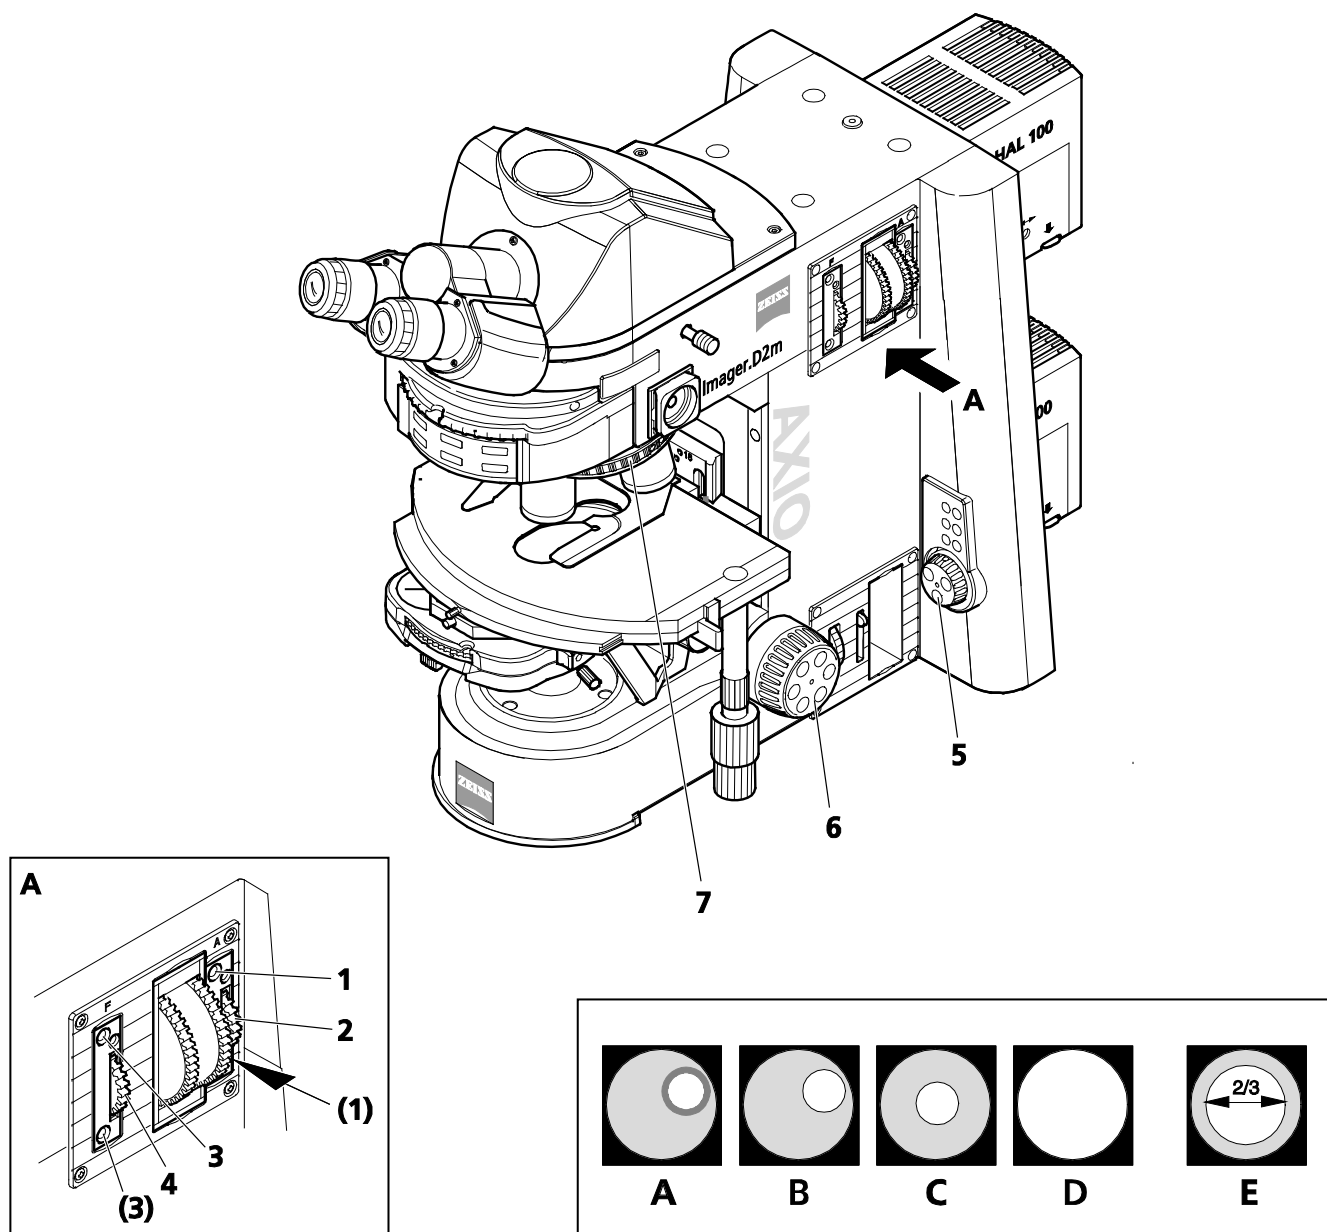

Fig. 205 Microscope settings on Axio Imager MAT in reflected-light brightfield
- Adjust light-intensity control (Fig. 205/5) on the microscope stand.
- Turn nosepiece (Fig. 205/7) to swing in 10x objective (yellow ring, see also Section 2.5).
- Use focusing drive (Fig. 205/6) to focus on the specimen. In doing so, always focus away from the specimen, if possible, to avoid any collision between objective and specimen.
- Set the aperture diaphragm (Fig. 205/2) in mid-position (roughly half open or closed) by turning its knurled wheel.
- Reduce the size of the luminous-field diaphragm (Fig. 205/4) by turning its knurled wheel until it becomes visible in the field of view (Fig. 205/A).
- Turn the focusing drive (Fig. 205/6) to refocus on the edge of the luminous-field diaphragm (Fig. 205/B) and (using the SW 3 ball-headed screwdriver) turn the centering screws (Fig. 205/3) until the luminous-field diaphragm is concentric with the edge of the field of view (Fig. 205/C).
- Then, open the luminous-field diaphragm (Fig. 205/4) so that it just disappears from the field of view (Fig. 205/D).
- Center the aperture diaphragm with the centering screws (Fig. 205/1) and, for specimens with average contrast, adjust the size of the aperture diaphragm to about 2/3 to 4/5 of the exit pupil diameter of the objective (Fig. 205/E) by means of knurled wheel (Fig. 205/2).
- Finally, reinsert the eyepiece, refocus with the coaxial coarse and fine focusing drive (Fig. 205/6) and adapt the image brightness to the specimen being examined.
Never use the aperture diaphragm to control the image brightness. Instead use the light intensity control (Fig. 205/5), or swivel attenuation filters of the 2-position filter wheels into the light path!